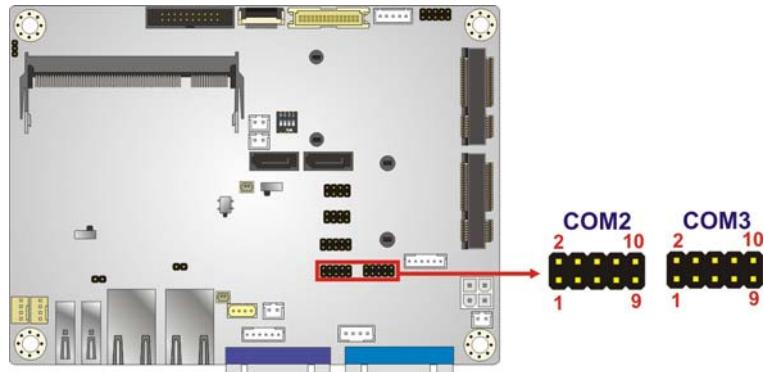

Figure 3-19: RS-232 Serial Port Connectors Locations
**CN Location:** See Figure 3-19